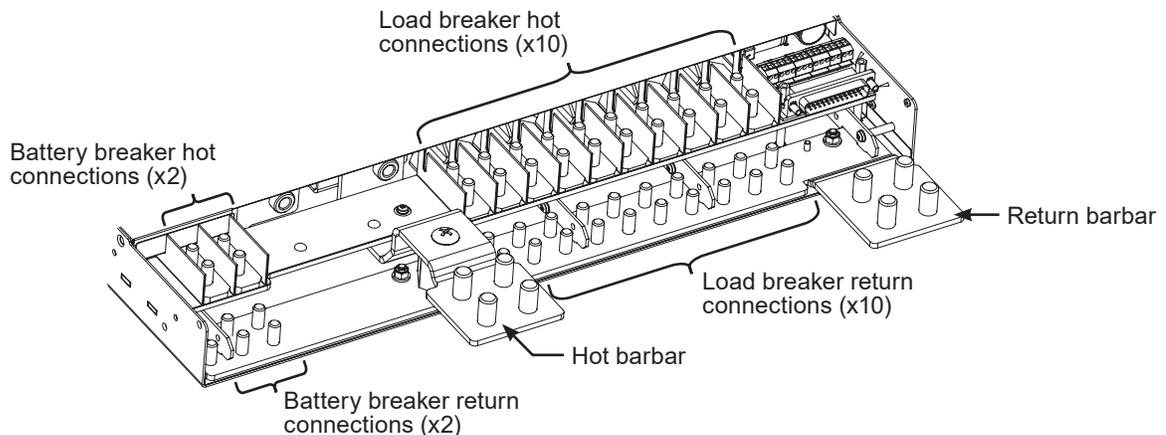

Figure 19 — Battery, Load, and Return Connection Locations
3. Cables should run directly out of the rear of the distribution center. Refer to Figure 19.